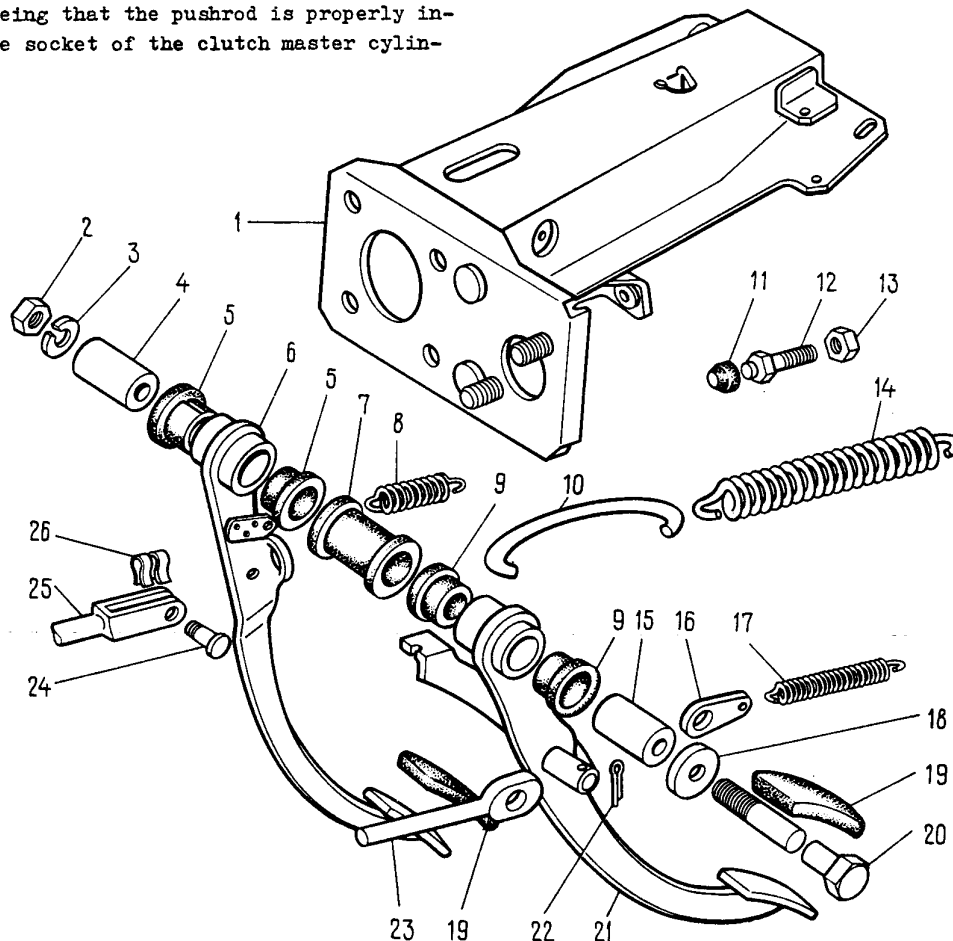

Fig. 6-9. Parts of Clutch and Brake Pedals Bracket:
- detach the vacuum booster pushrod from the brake pedal by removing locking clip 26 (Fig. 6-9) and pin 24;